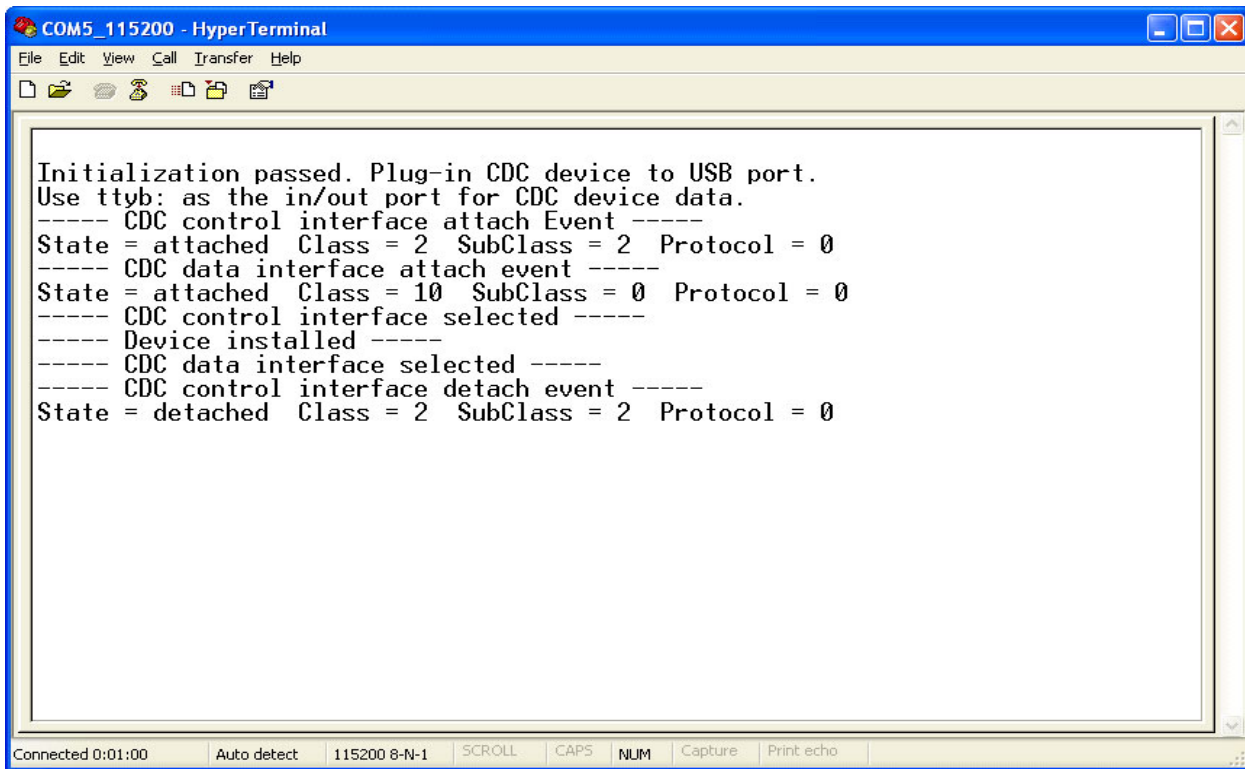

Figure D-5. CDC device detached
6. Unplug the CDC device. The HyperTerminal is as shown in Figure D-5.